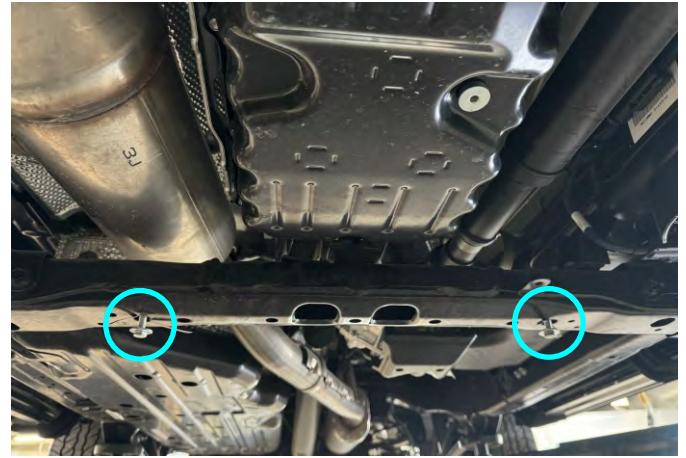

Fig. 2
2. Loosely insert supplied bolts M8x25 with washers M8 (items A, B) to insert nuts M8 as shown in fig. 2.